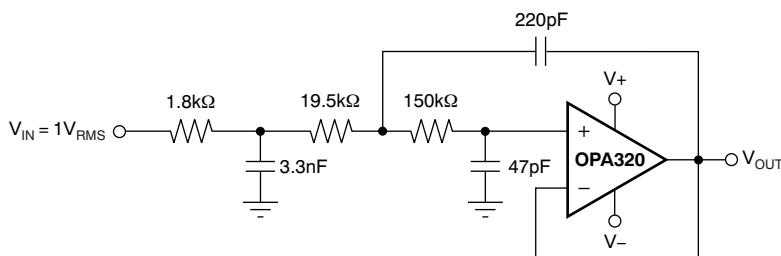

Figure 42. OPA320 Configured as a Three-Pole, 20kHz, Sallen-Key Filter
3. using a noninverting filter topology, such as the Sallen-Key (shown in Figure 42).